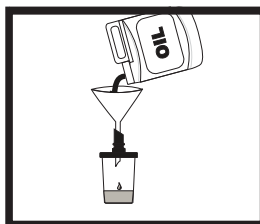

Fig. 3
9. Use disposable funnel, fill reservoir 2/3rds full (Fig. 3).